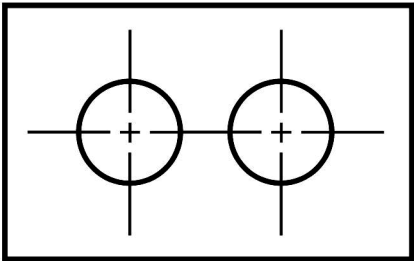

Figure 2.5-8: Connecting center lines.
- Rule 4. Center lines may be connected within a single view to show that two or more features lie in the same plane as shown in Figure 2.5-8. However, they should not extend through the space between views.